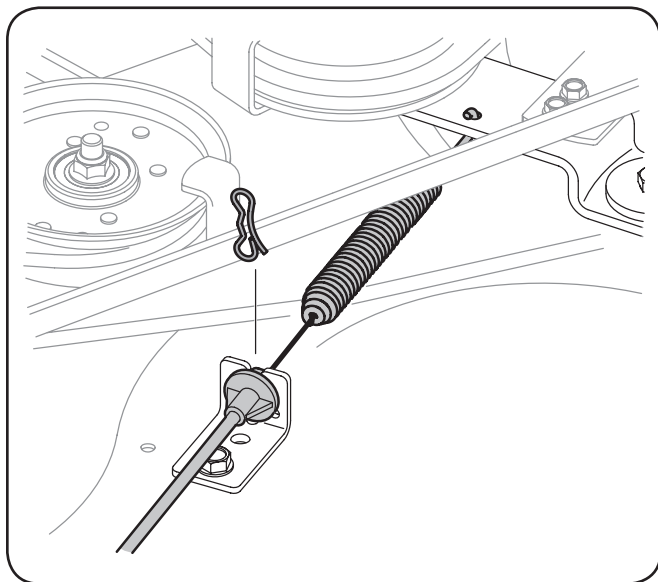

Figure 7-4
- Carefully remove the deck engage cable from the rear of the cutting deck by removing the bow-tie cotter clip that secures it. Remove the spring from the deck idler bracket. See Figure 7-4.
- c. Reattach the deck engage cable. See Figure 7-4.